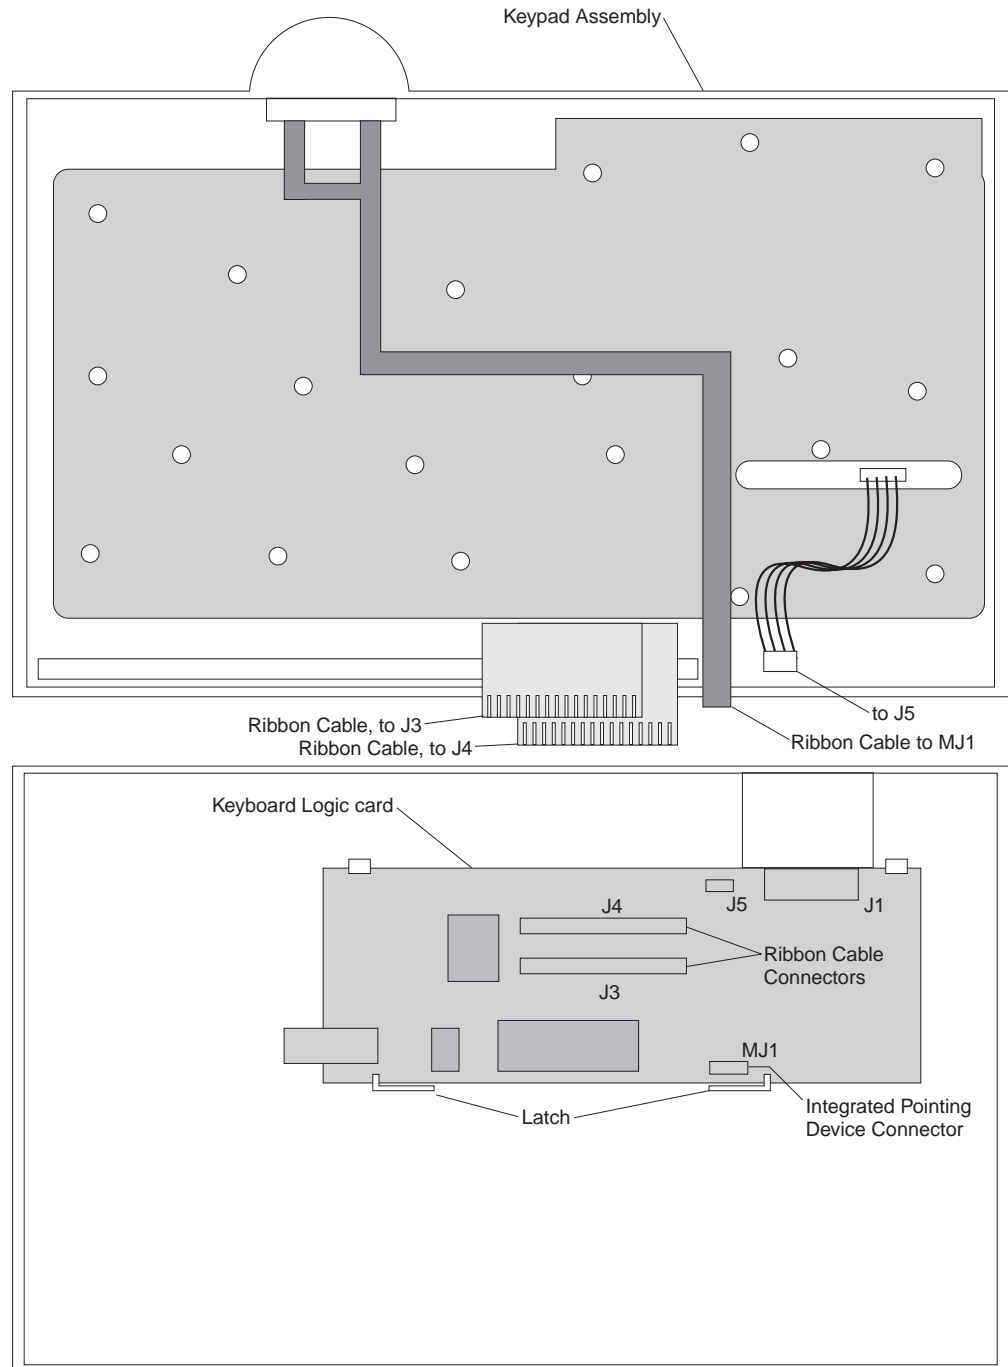

Figure 43. CANPOS keypad assembly without MSR
- d. Disconnect all cables between the keypad assembly and the keyboard logic card. See Figure 43 on page 45 for cable callouts and locations.
2. Pull the two card-retention latches away from the card, and lift the logic card out of the keyboard base. See Figure 43 on page 45 for card and latch locations.